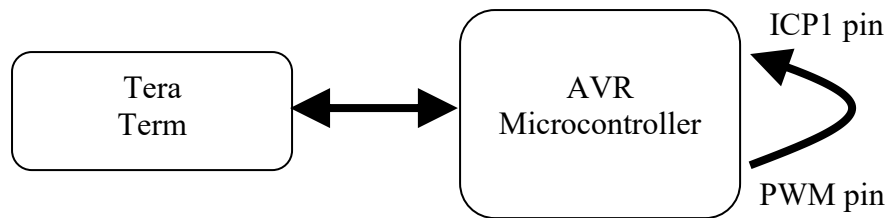

Figure 1
1. It gets an integer from Tera Term and sets it as the pulse width (in clock cycles) of a wave generated by the AVR microcontroller (see Figure 1). The frequency of the wave should be 500 Hz. The received integer should be echoed in Tera Term. You can assume the integer is between 10 and 99.